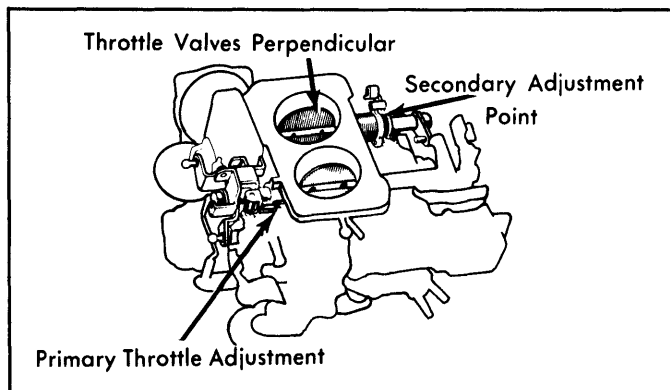

Fig. 6: 1977-79 Throttle Valve Adjustment
**1977-79 Models** – Open primary throttle valve, then open secondary throttle valve. Throttle valves must be perpendicular to flange surface when fully opened. See Fig. 6. Bend throttle lever stopper(s) to make adjustment.